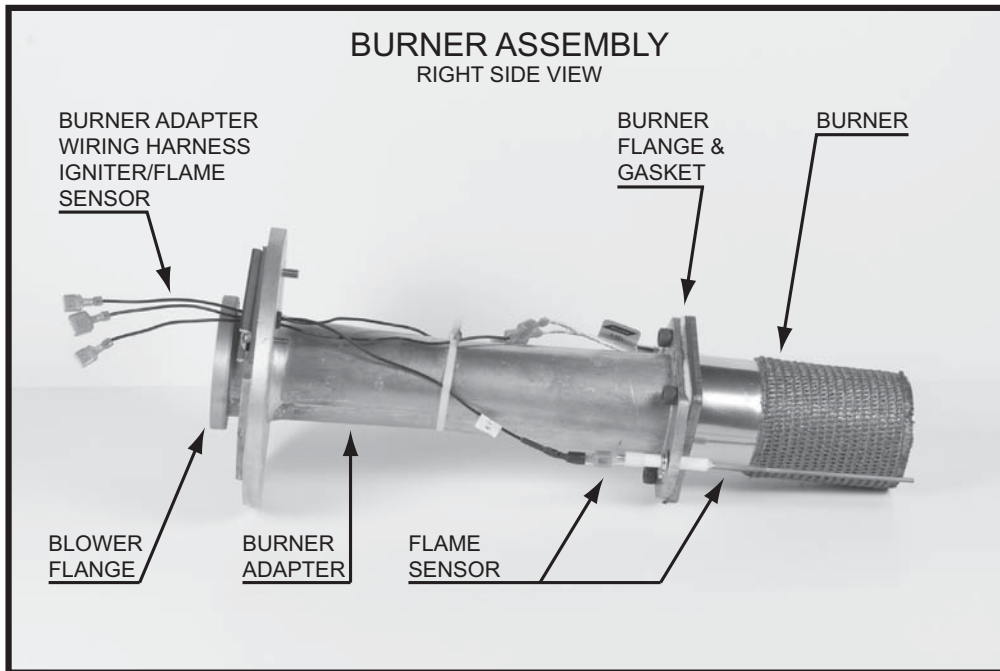
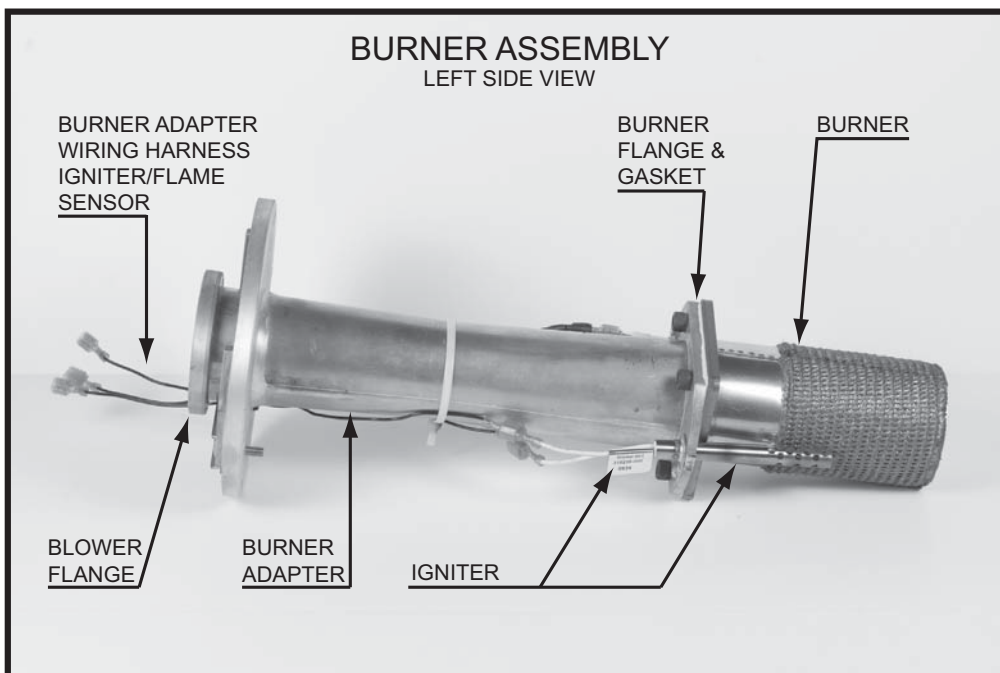
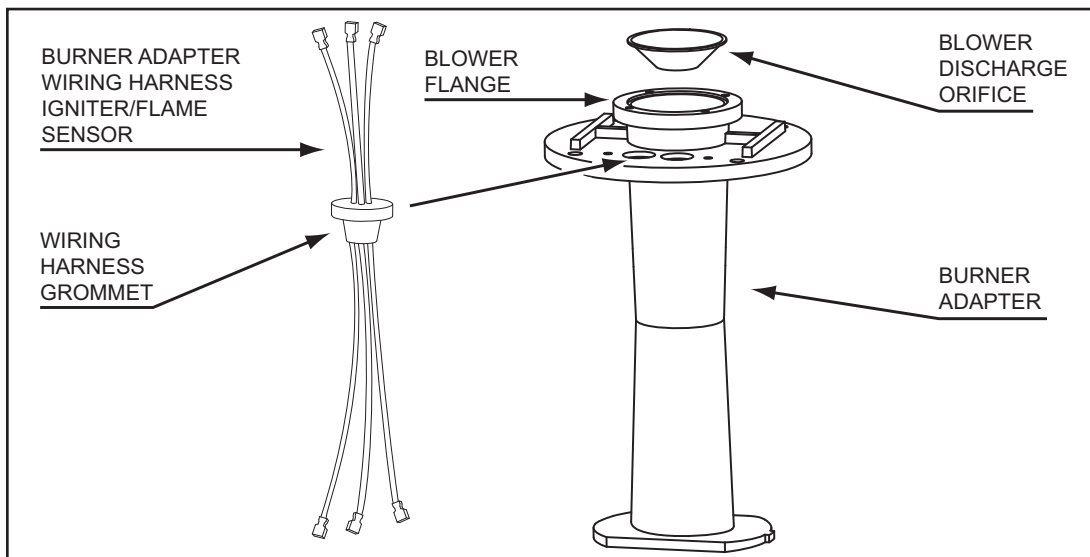

Figure 8
Figure 9
Figure 12
The Burner is a radial design burner with a steel fiber jacket on the outer surface and is part of a larger Burner Assembly. Figure 8 and Figure 9 below show side views of the complete Burner Assembly removed from the water heater with key components identified. See the exploded view of the Combustion Blower & Burner Assembly on page 9 also.
12. Inspect the Burner Adapter wiring harness and wiring harness grommet, replace the wiring harness if it shows any sign of excessive wear or damage, see Figure 8 on page 12 and Figure 12 on page 13.